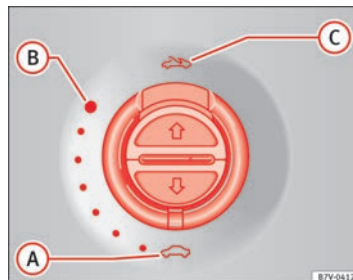

Fig. 58 On the interior roof lining: use the rotary button for opening and closing
⇒ Fig. 58
- The ⇒ Fig. 58 switch should be in the “closed” position .